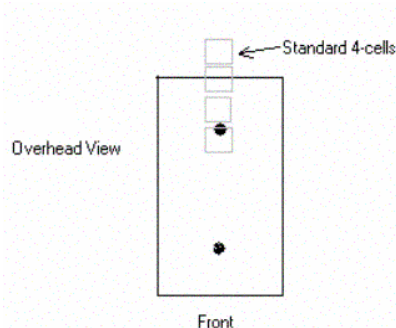

Figure-15 Remove Front Screw
Step 5 Looking over the Sample Compartment, remove the front screw (Figure-15).
Step 5: Looking over the Sample Compartment, remove the front screw (Figure-15).
- Step 4 Looking over the Sample Compartment, remove the front screw (Figure-15).